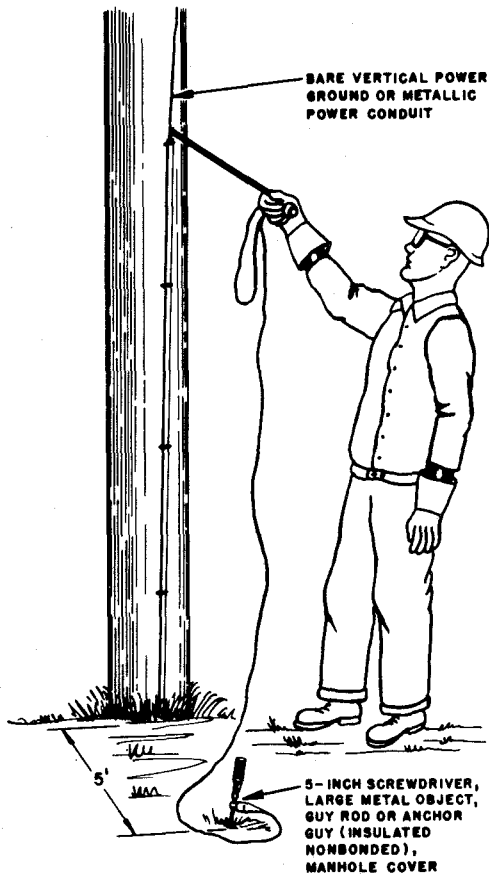

Fig. 10—Testing Vertical Power Ground
- 5.04** An employee, testing for a foreign potential, is to observe the indicator as the probe touches the object being tested. This can be best accomplished by using the "gunsight method." Both the indicator and probe are held in the same hand and in the line of sight between the workman and the object being tested. Figures 10, 11, and 12 illustrate this technique.
- (a) Attach the insulated clip of the B-Voltage Tester (Fig. 10) to one of the following:
- (1) A 5-inch screwdriver blade pushed into the earth about 5 feet from the pole.